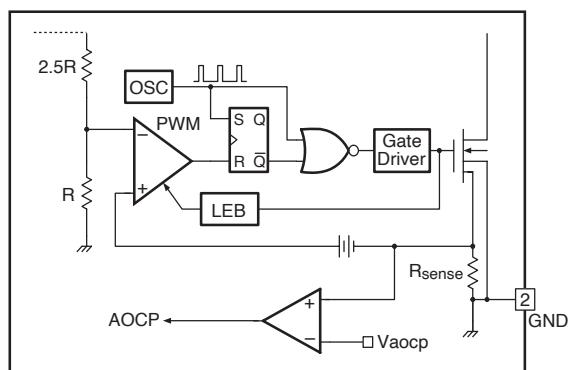

Figure 14. AOCP Block
4.2 Abnormal Over Current Protection (AOCP): When the secondary rectifier diodes or the transformer pins are shorted, a steep current with extremely high dI/dt can flow through the SenseFET during the LEB time. Even though the FSCQ-Series has OLP (Over Load Protection), it is not enough to protect the FSCQ-Series in that abnormal case, since severe current stress will be imposed on the SenseFET until the OLP triggers. The FSCQ-Series has an internal AOCP (Abnormal Over Current Protection) circuit as shown in Figure 14. When the gate turn-on signal is applied to the power SenseFET, the AOCP block is enabled and monitors the current through the sensing resistor. The voltage across the resistor is then compared with a preset AOCP level. If the sensing resistor voltage is greater than the AOCP level, the set signal is applied to the latch, resulting in the shutdown of SMPS. This protection is implemented in the latch mode.